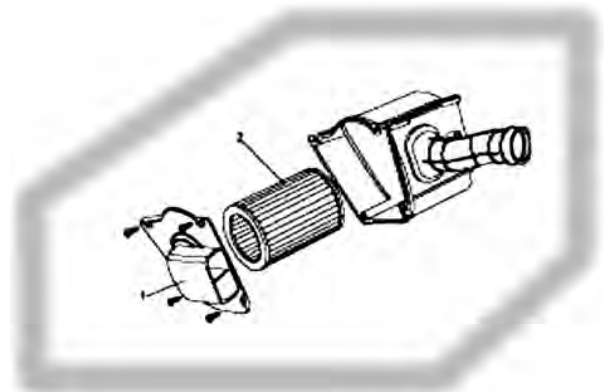

Figure 6
- B. Remove air cleaner element 2 (See Fig.6)